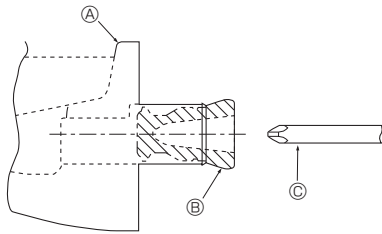

Fig. 5-1
5.1. Drainage piping work (Fig. 5-1)
- For left side tubing, be sure to insert the rubber plug into the right drain port. (Fig. 5-1)